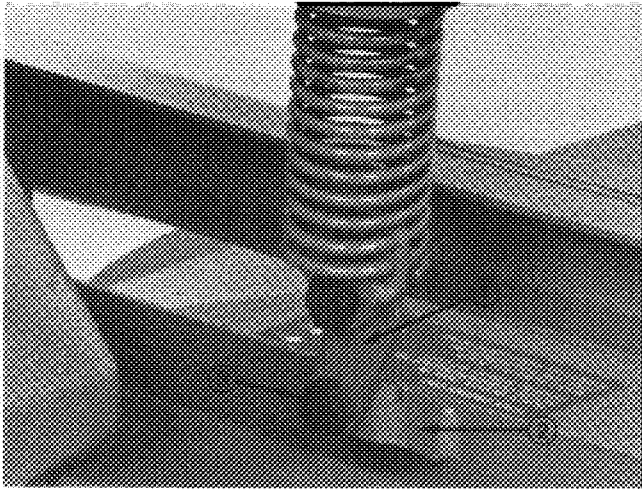

Figure 6
6. Attach the bottom knee link bracket(s) to the deck bracket(s) with a shoulder bolt, flat washer, and lock nut (Fig. 6). Do not over tighten the shoulder bolt, bracket should pivot freely.